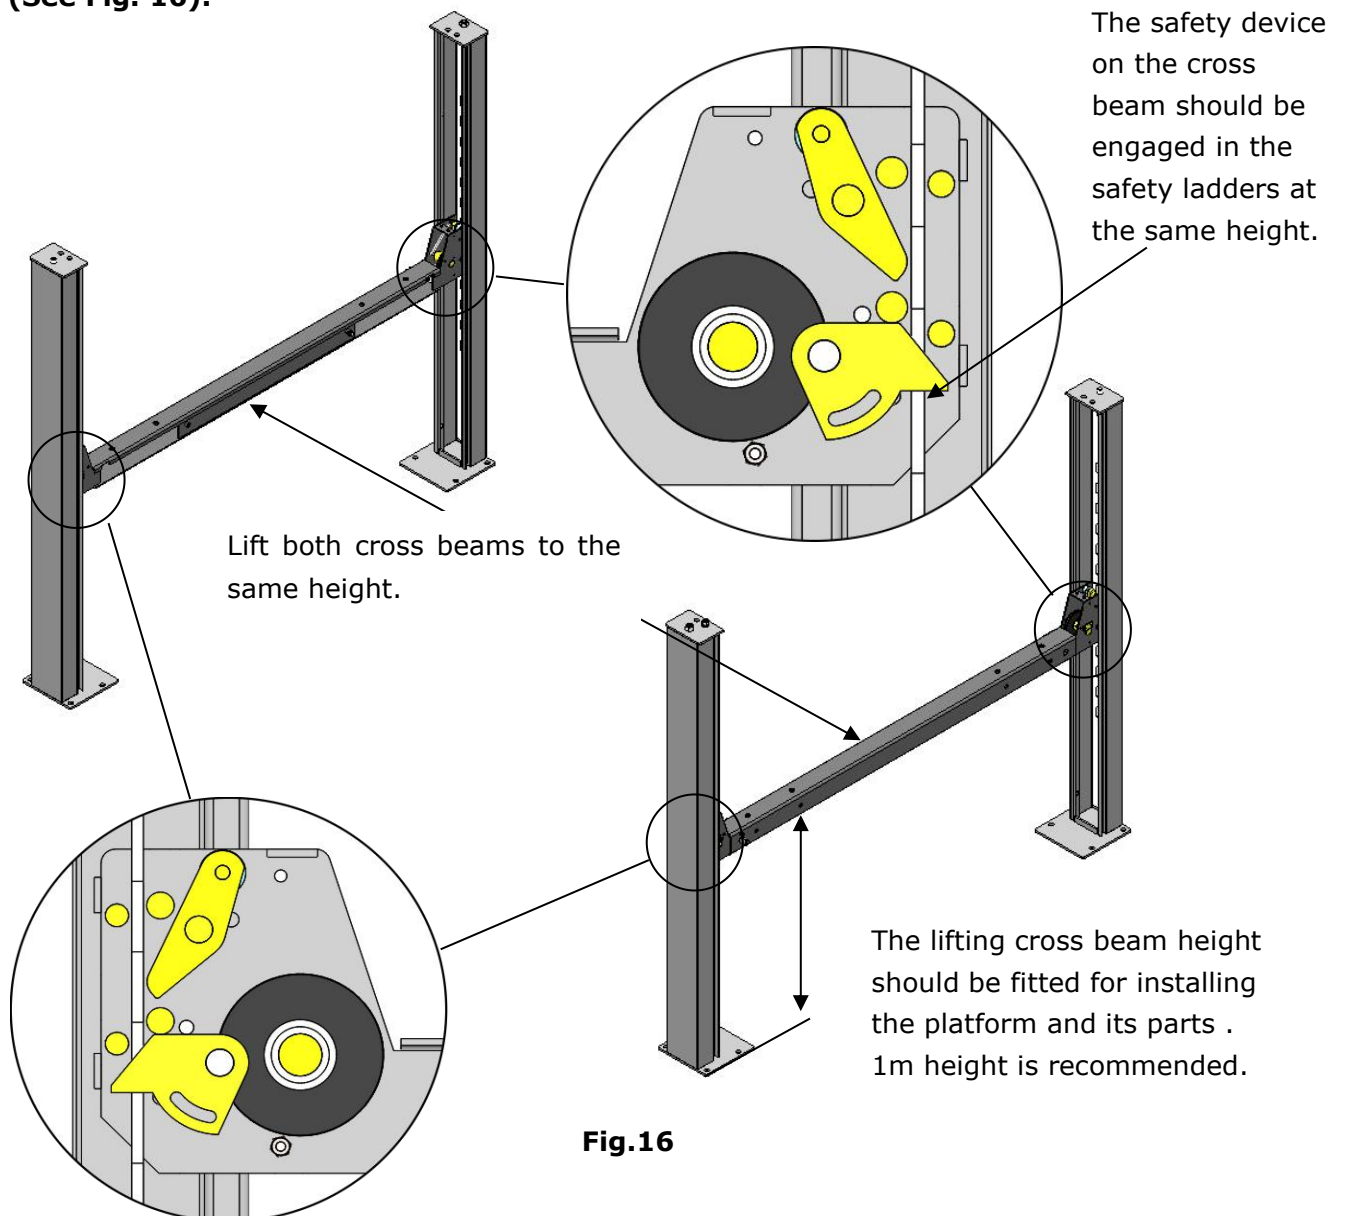

Fig.16
E. Raise the cross beams at the same height and lock them on the safety ladders (See Fig. 16).